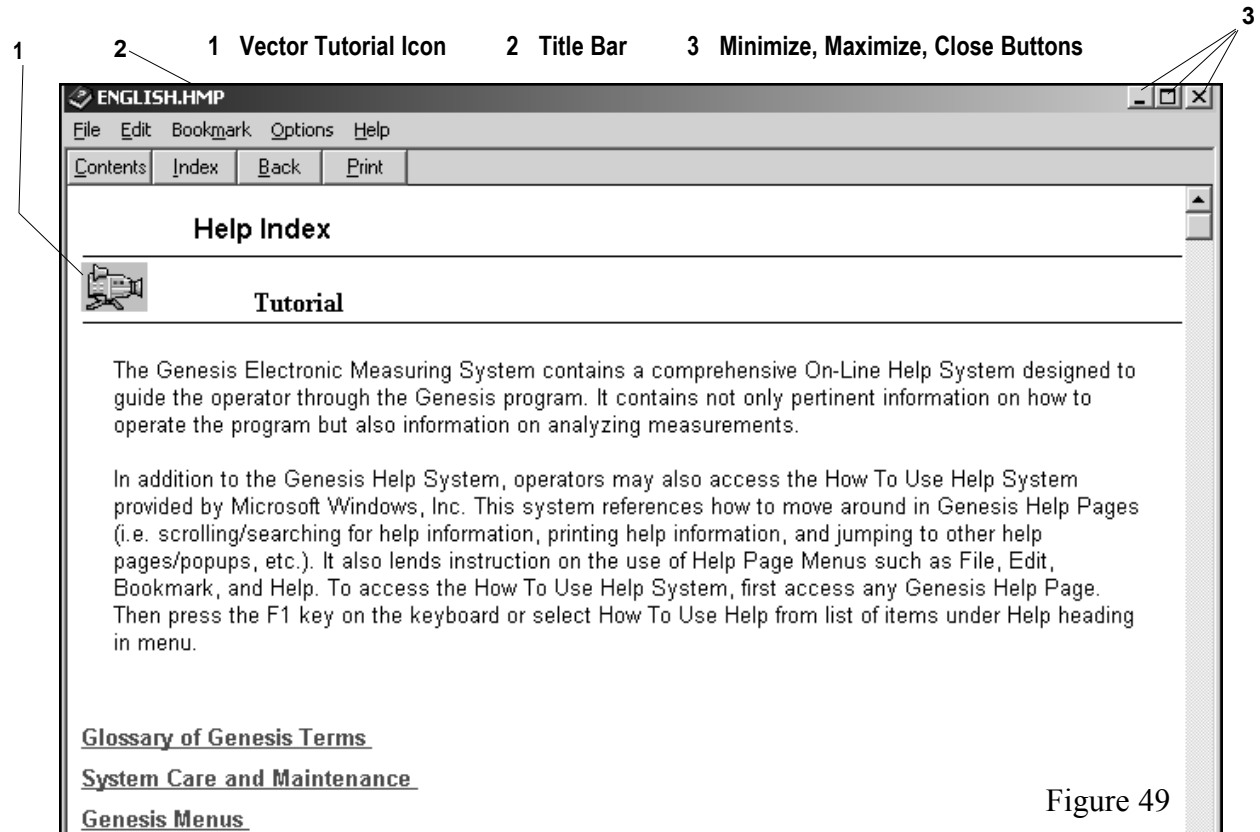

Figure 49
**NOTE:** Upon accessing Help Index (see Figure 49), operator can select one of several categories listed. Selection of that category will access a more specific menu. Each selection made in this process channels operator to help that's desired. Camera Icon at top of Help Index page accesses the Vector Tutorial. (Optional speakers required to listen to Tutorial.)